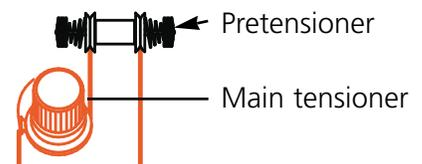

Figure 2-3
1. Pull the thread from the guide hole down between the pretensioner disks (see Figure 2-3).